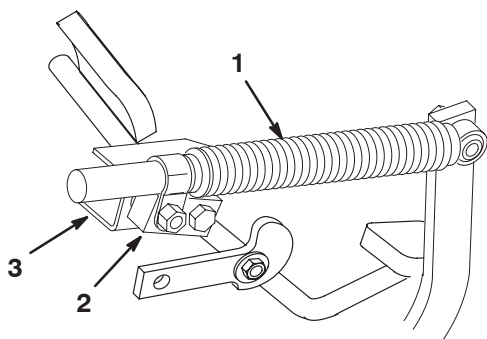

Figure 60
2. Loosen the locknut securing the damper pivot to the damper bracket (Fig. 60).